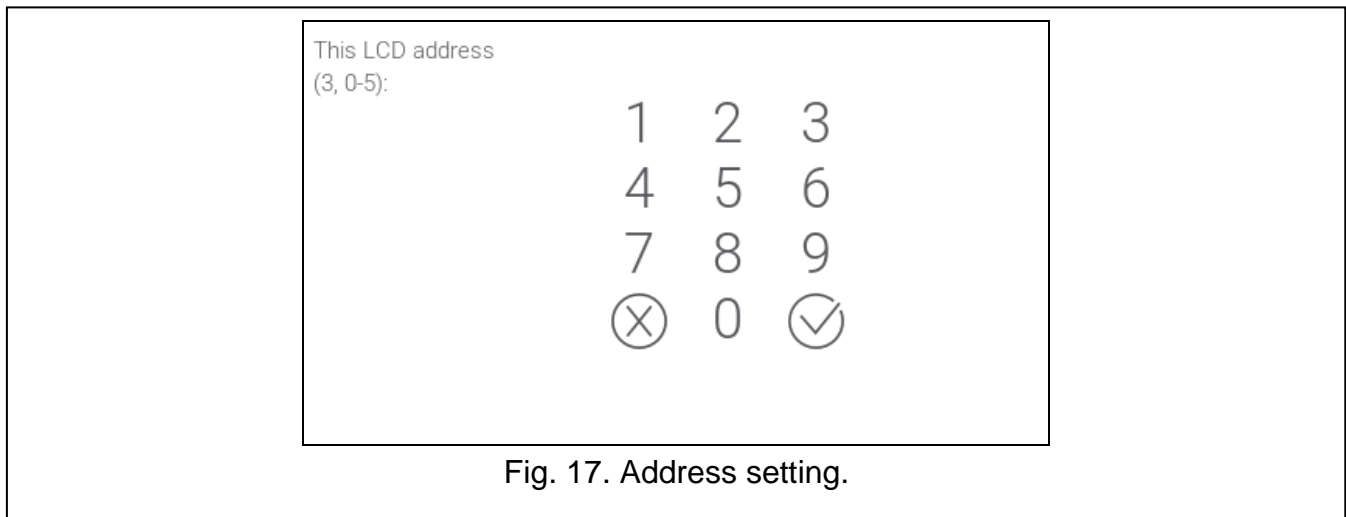

Fig. 17. Address setting.
1. Tap . The “0.Keypads addr.” function will start. All wired keypads will display the message: “This LCD address (n, 0-5)” [n – keypad address; 0-5 – range of supported addresses] (Fig. 17).